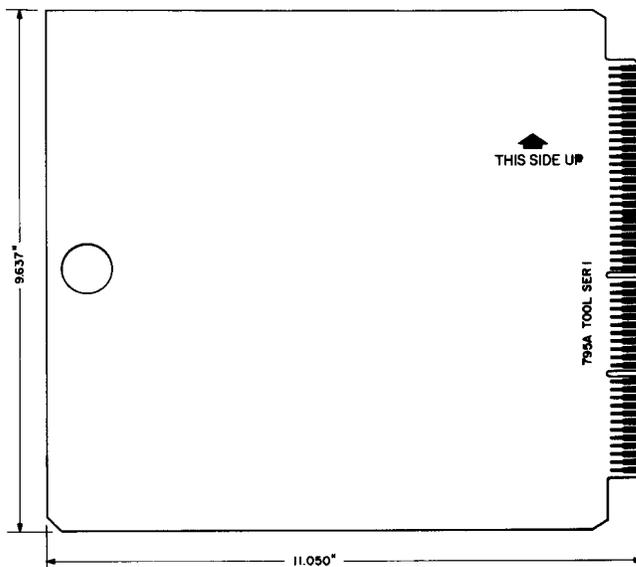

Fig. 4—795A Multiplex Tester Tool
**2.10 795A:** The 795A multiplex tester tool (Fig. 4) is used on the M1-2A multiplex. This tool is designed to mate with a 931 connector and will prevent alarm conditions while maintenance is being performed.